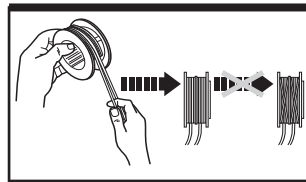

Fig. 18d
8. Wind the two parts of the trimming line in clockwise direction firmly around the spool each part in the guide on the spool. (See Fig. 18d)